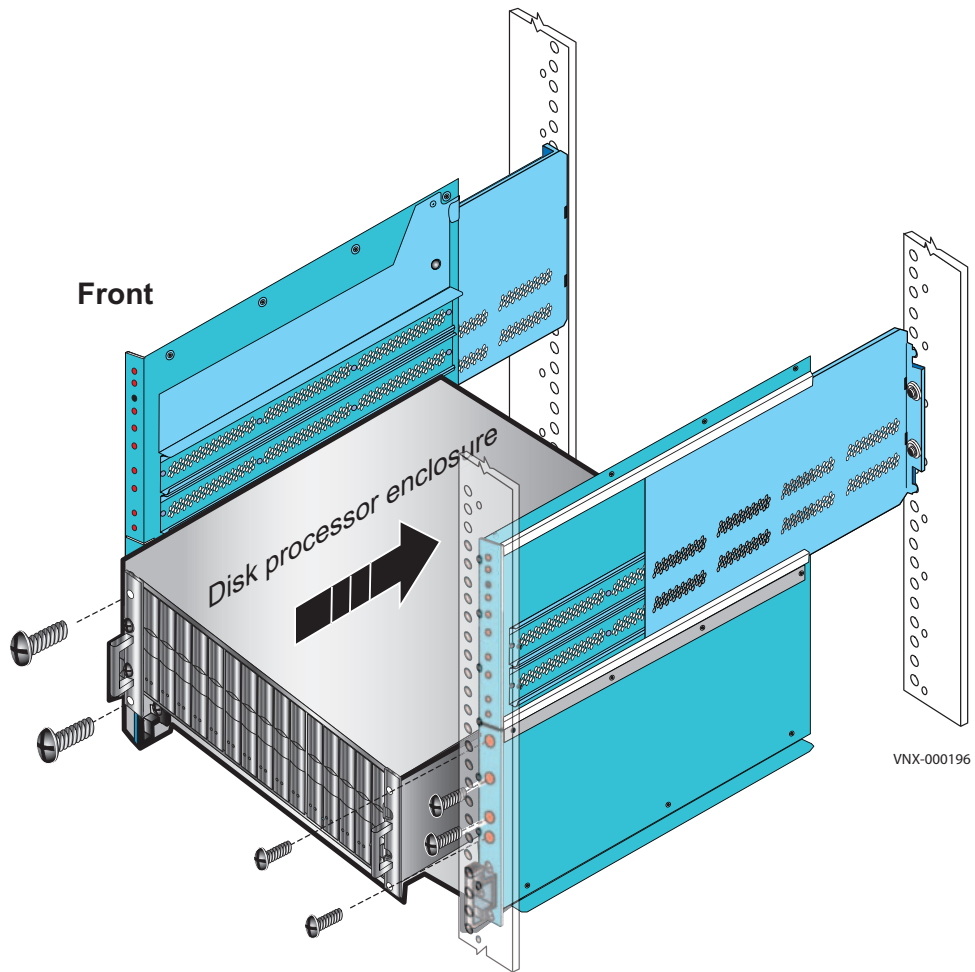

Figure 10 Installing the DPE
3. Slide the disk processor enclosure (DPE) into the slot above the SPS as shown in Figure 10 on page 21. Ensure the enclosure is fully in the cabinet. The rail stops in the back will seat into the back of the enclosure at the correct depth, and the front of the enclosure will be flush with the cabinet face.
4. Working in a diagonal pattern bottom left and top right, bottom right and top left, attach, but do not tighten, the component by inserting the four screws through the DPE, the cabinet rail and into the gang rail as shown in Figure 10 on page 21.